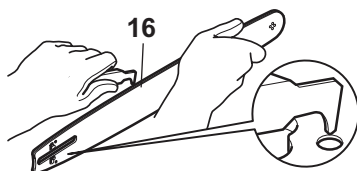

Fig. 37
3. Check the drive sprocket (26). If it is worn or damaged due to strain, have it replaced by an authorised service agent.
4. Clear residue from the rails on the guide bar (16) by using a screwdriver, putty knife, wire brush or other similar tool. This will keep the oil passages open to provide proper lubrication to the guide bar (16) and saw chain (17) (Fig. 37).